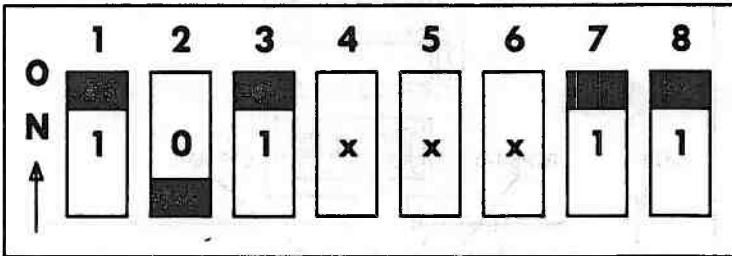

Figure 3-31. DIPSW-1 Setting for One Mini-Floppy Disk Unit and Hard Disk Unit(s)
4. Set switches 3, 7, and 8 of DIPSW-1 to reflect the presence of one MFD Unit and HDU (Figure 3-31).